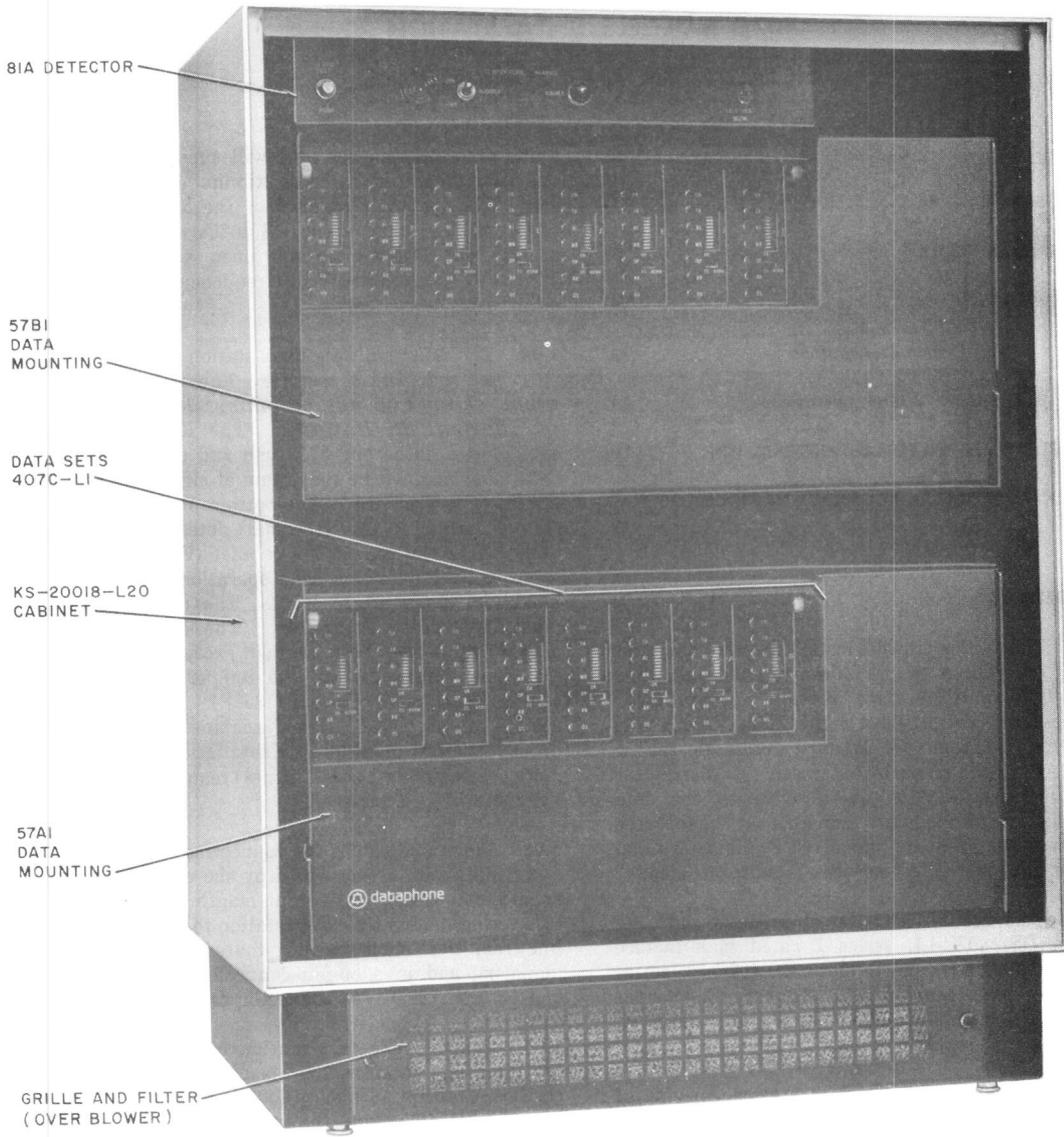
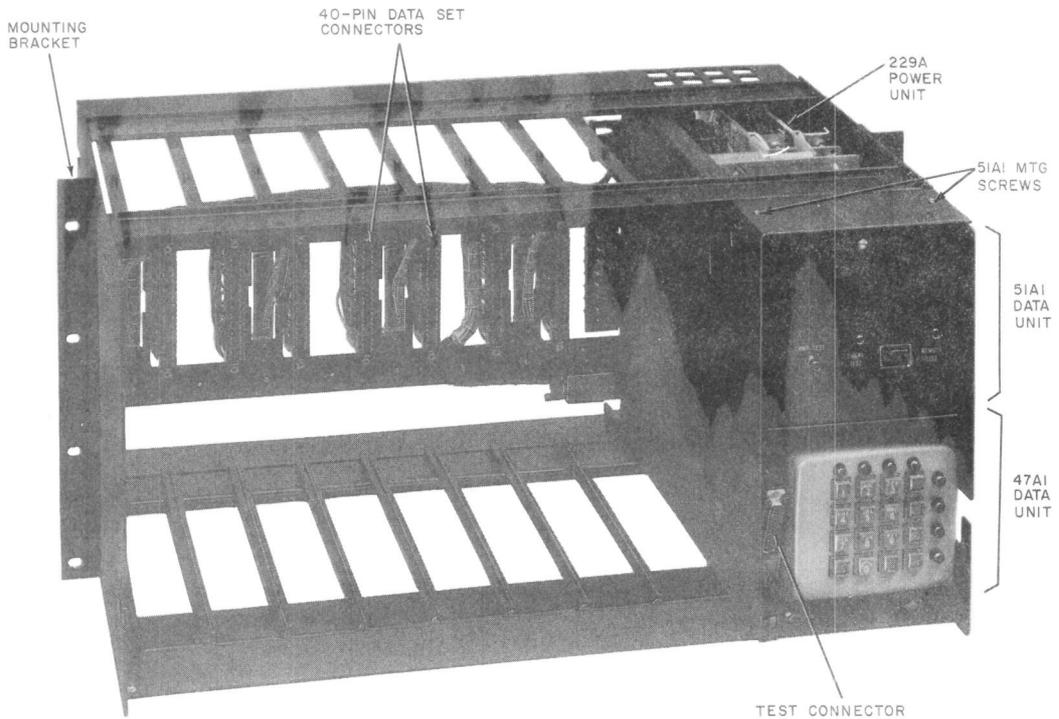
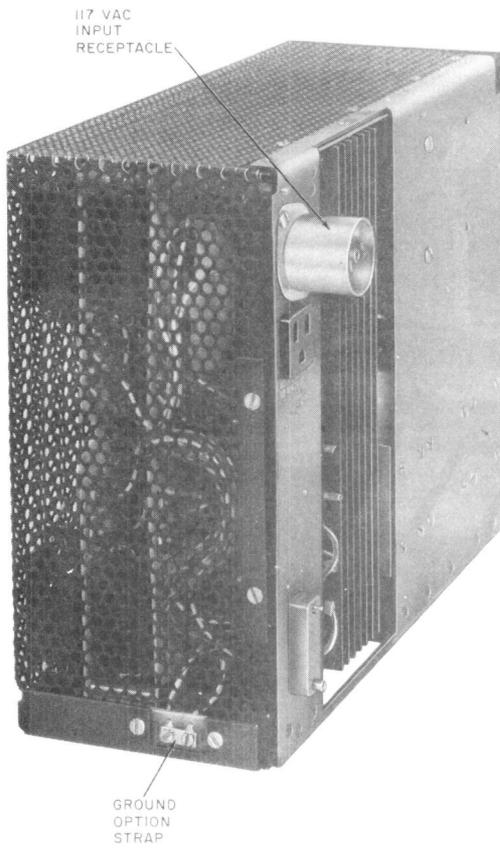

Fig. 1—Front View of 407C Multiple Data Station With Plastic Front Cover Removed
Fig. 3—57A-Type Data Mounting With Front Cover Removed
Fig. 5—229A Power Unit
1.03 The 407C multiple data station consists of DSs 407C-L1, 57-type data mounting(s) (four data sets per data mounting), and a KS-20018-L20 cabinet (Fig. 1 and 2). Both of the 57-type data mountings (Fig. 3 and 4) contain a 229A power unit (Fig. 5), but only the 57A1 contains a test
1.04 The 407C multiple data station is housed in a KS-20018-L20 cabinet. ***The use of any other cabinet is not recommended because of thermal limitations.*** The KS-20018-L20 cabinet can house one 57A-type and one 57B-type data mounting, with a maximum of eight data sets. A blower is provided in the bottom of the cabinet (Fig. 1), while an 81A (thermal) detector must be installed in the top of the cabinet (Fig. 1 and 6) to protect the data sets from operation above their maximum temperature limit. The 81A detector must be ordered separately. The detector will shut off all power in the cabinet, except for audible and visual alarms, when the temperature in the cabinet reaches 57° Celsius (135°F). All power is restored automatically when the cabinet temperature drops to 47° Celsius (118°F). Installations requiring more than eight data sets (16 lines) require additional KS-20018-L20 cabinets.